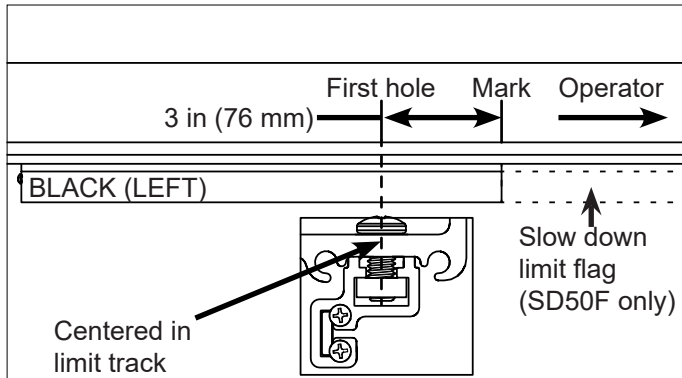
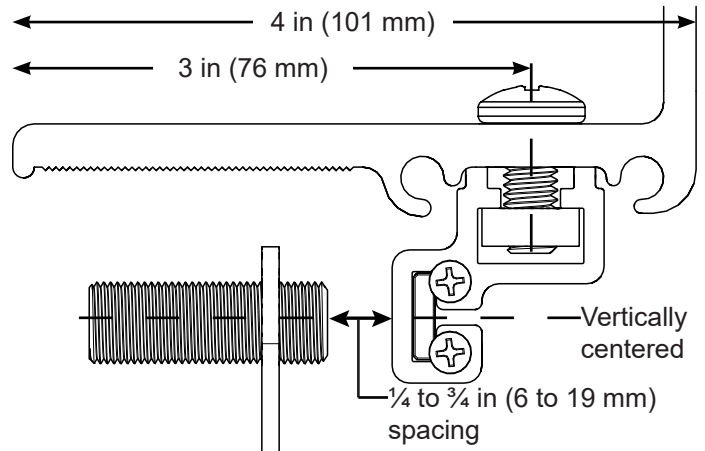

Figure 9. Drill First Limit Flag Hole (Left Limit)
Figure 11. Set Dual Limit Sensor Spacing
5. Drill one hole 3 in (76 mm) from mark away from the operator and approximately 3 in (76 mm) from the edge of the drive rail (Figure 9 and Figure 11).
9. Set dual limit sensor spacing: loosen the two nuts ($1\frac{1}{16}$ in) on the dual limit sensor, adjust the spacing between the dual limit sensor and stop limit flag face to $\frac{1}{4}$ to $\frac{3}{4}$ in (6 to 19 mm), and tighten the nuts to hold this spacing (Figure 11).